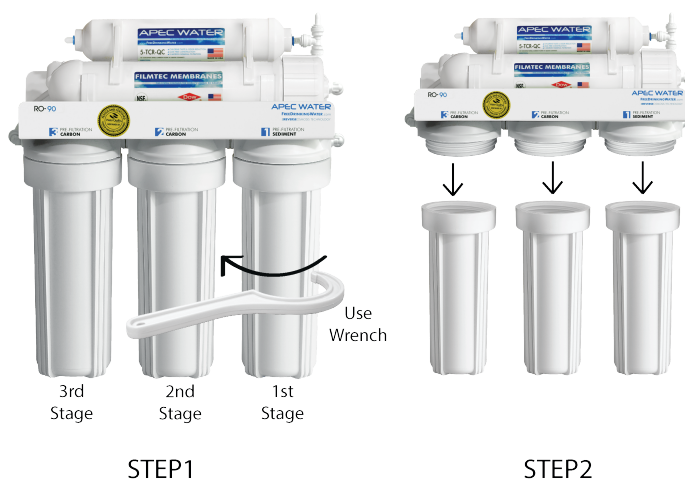

Fig. 14
- 1) Remove the OLD filter: See **Fig. 14 A**. Disconnect the output tubing from **point H**. Remove the T-fitting from filter's Left hand port. (**point J**). Discard the used filter.